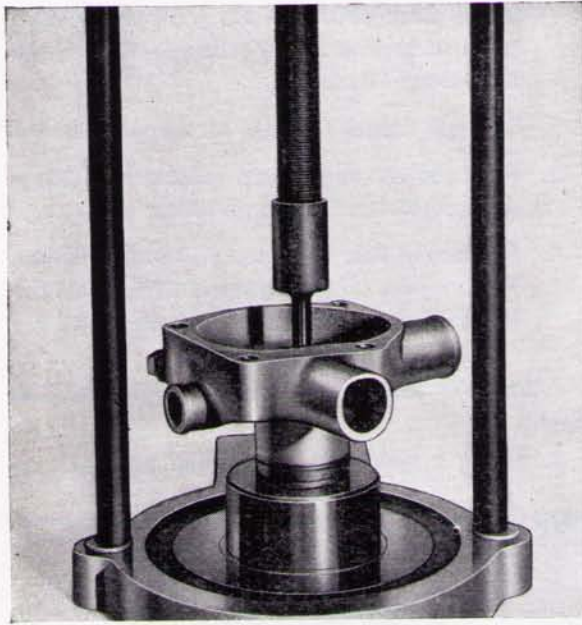

Fig. Q.5.
5. Press out the bearings and distance piece as shown in Fig. Q.5.